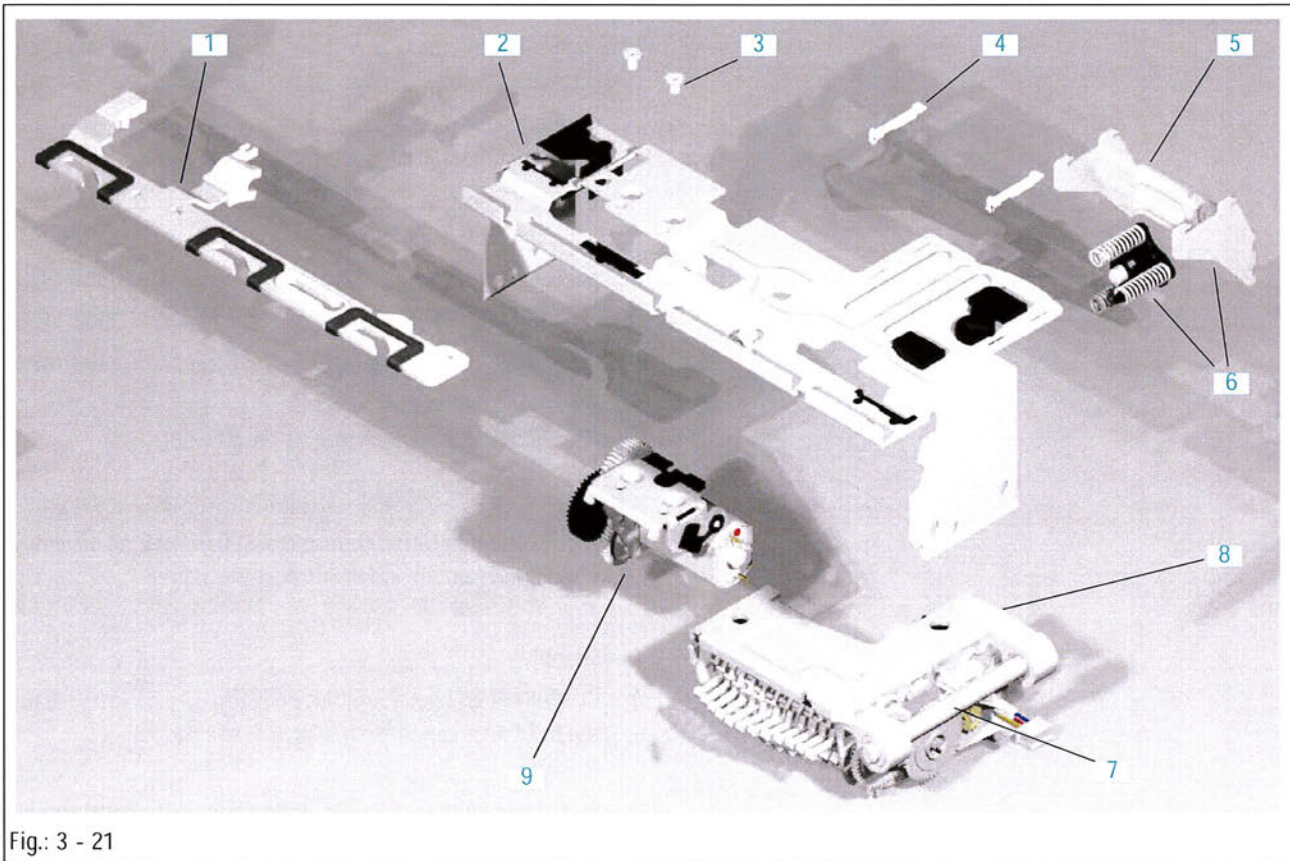

Fig.: 3 - 21
1. Carefully press two bracket lockings (Fig.: 3 - 21 / Item 4) at the front and rear out of the inner frame (Fig.: 3 - 21 / Item 2).
2. Push the bracket (Fig.: 3 - 21 / Item 5) forward against spring tension, unhook from the inner frame and remove it together with the pressure adjustment unit (Fig.: 3 - 21 / Item 6).
3. Press the pump frame guide (6 mm straight pin) (Fig.: 3 - 21 / Item 7) in longitudinal direction out of the linear bearings of the pump frame and the inner frame holders and remove the pump frame from the inner frame. Do not lift.
Legend to fig. 3 - 21: